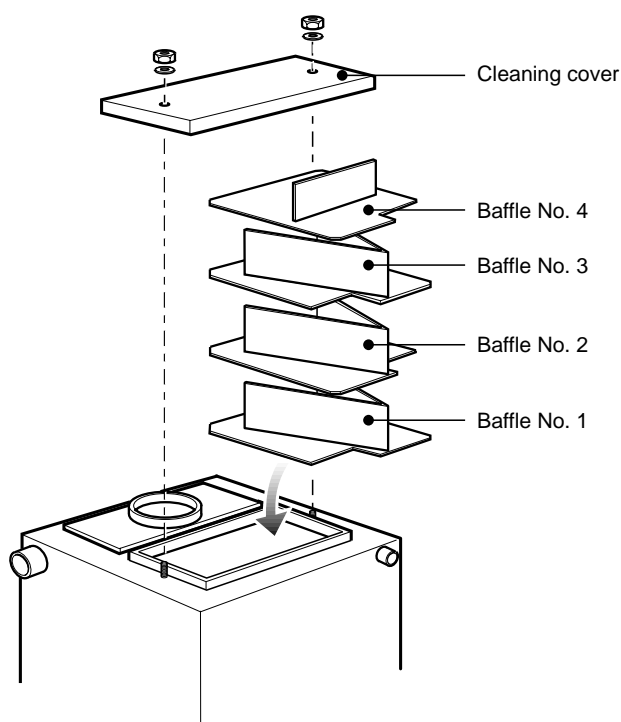

Fig. 32 - 50/70 baffle positions
See Fig. 32, 33 or 34
- 2 Remove the baffles, noting their position (see Fig. 32, 33 or 34).
- 6 Replace the baffles, ensuring they are correctly fitted. See Fig. 32, 33 or 34.
50/70 - Baffle plate one is at the bottom, then two, then three and four at the top (see Fig. 32).